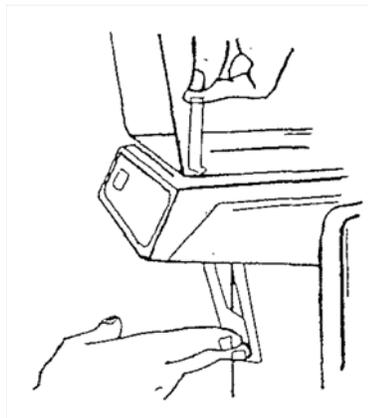

Figure 7
- d. Carefully insert pinch tube into the bowl spout opening and on into lower opening of the handle support spout. Make sure the end of the tube does not get caught on the edge above the handle support spout opening. Pull the end of the tube to seat it firmly into the bowl spout seat. Make sure the tube is free of wrinkles and extends below the support spout about a 1/4 inch (See Figure 7.).